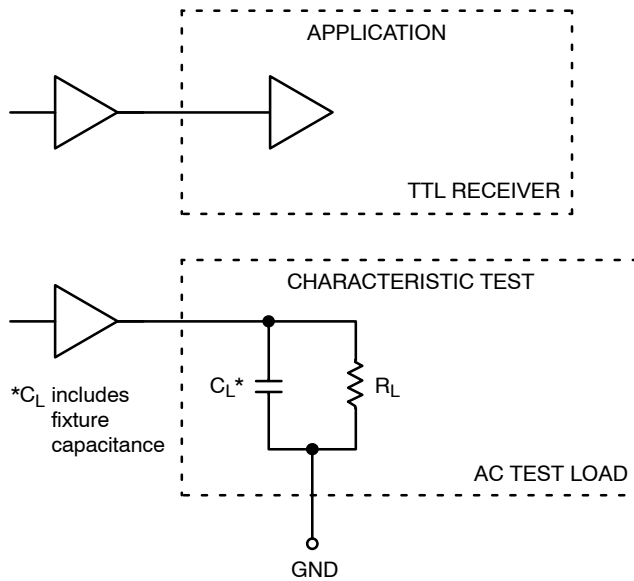

Figure 3. TTL Output Loading Used for Device Evaluation
4. Measured with a 750 mV 50% duty-cycle clock source.  $R_L = 500\ \Omega$  to GND and  $C_L = 20\text{ pF}$  to GND. Refer to Figure 3.